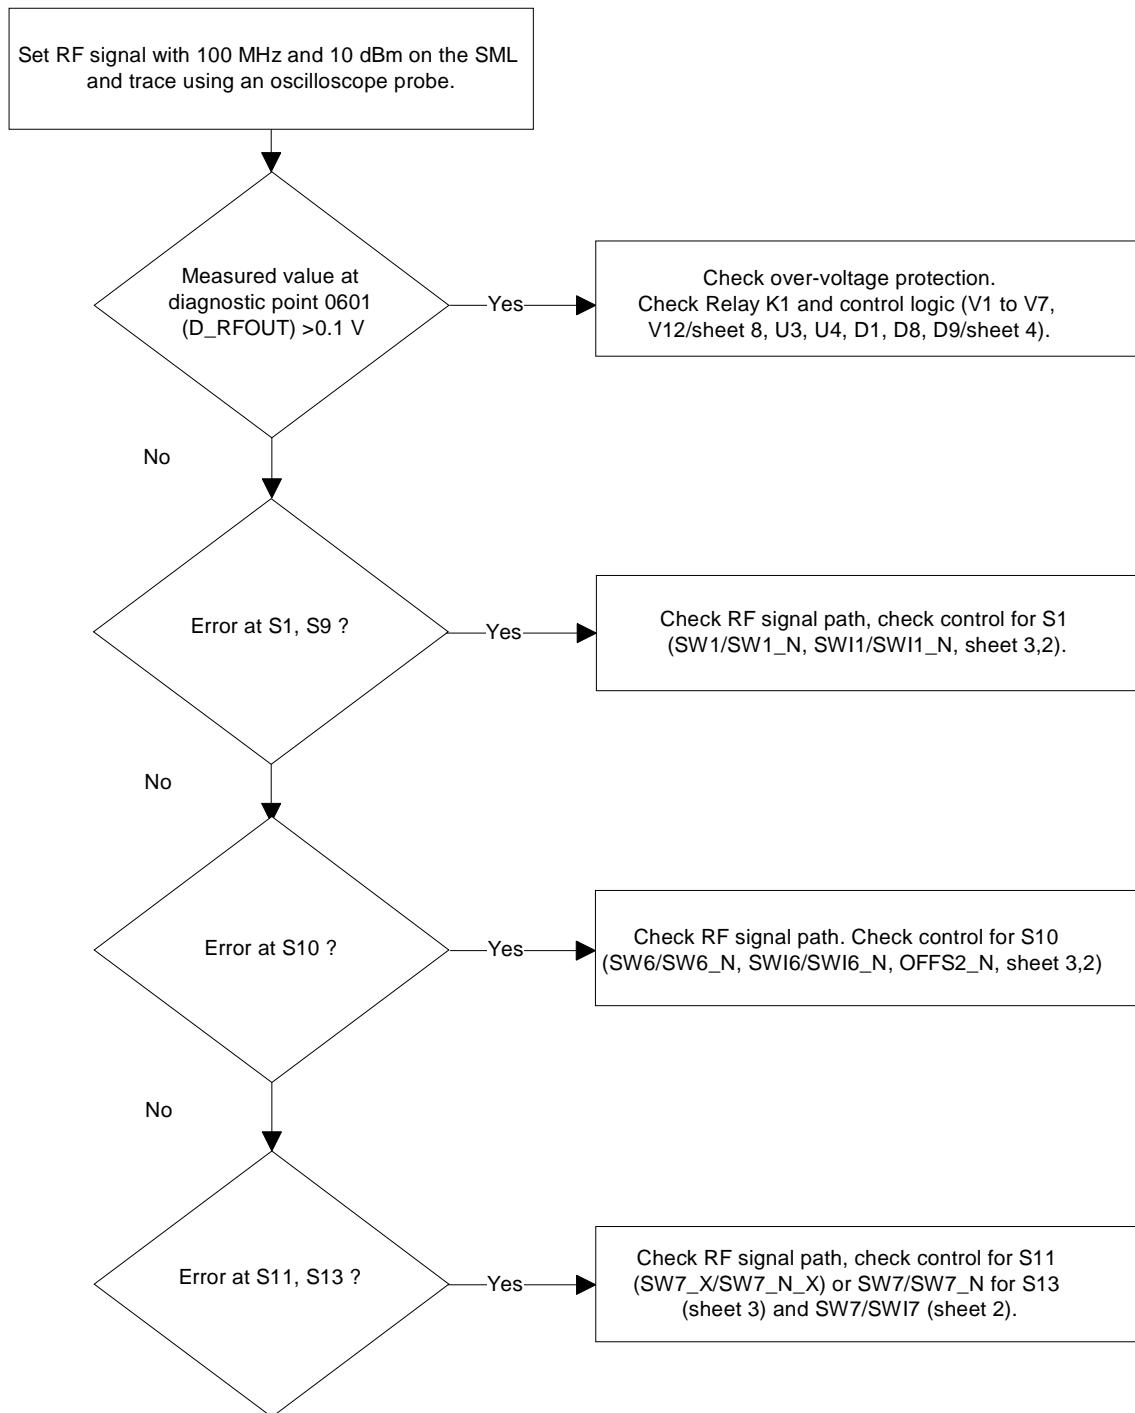

Fig. 3-2 Troubleshooting diagramm
- Attenuator is connected to SML. Controller (PC) is connected to SML.
- For troubleshooting use the flow chart in Fig. 3-2 and the circuit diagram. The switch positions can be set in the menu '*Direct Mode / Modules & Options / Att2*' according to Table 3-4 and the resulting hardware responses checked. The logic value 0 corresponds to the switch position of the attenuation path with the smaller attenuation. The control voltages (SWx / SWx_N) of the GaAs switches must lie in the range $SWx \geq 0V$ ($\leq -4.5 V$) / $SWx_N \leq -4.5 V$ ($\geq 0 V$).